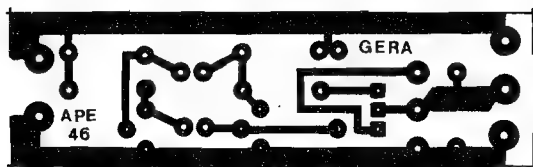

Fig.2
- FIG. 2 - LAY OUT ESPECÍFICO PARA O CIRCUITO IMPRESSO